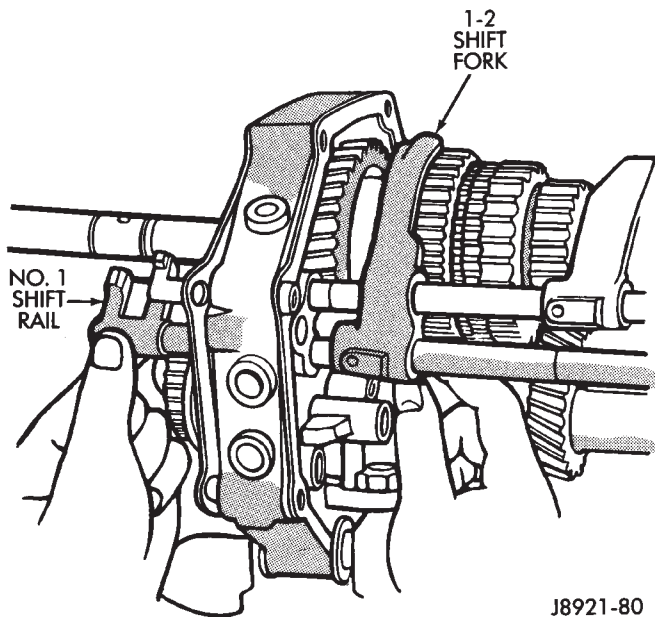

Fig. 80 Installing No. 1 Shift Rail
(8) Slide No. 1 rail through 1-2 shift fork (Fig. 80).